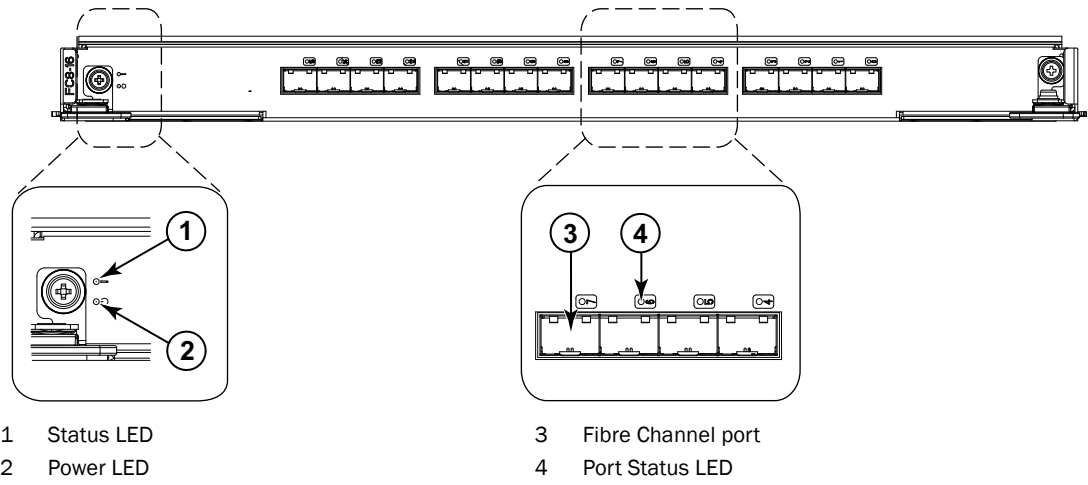

FIGURE 5 FC8-16 Port blade
- Figure 5 illustrates the FC8-16 port blade.